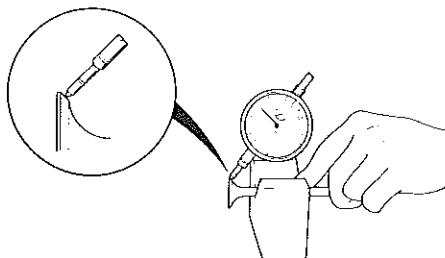

Fig. 4-63
- Check each valve for radial runout with a dial gauge and "V" block, as shown in Fig. 4-63. The object of this check is to determine whether the valve stem is true and square relative to the head.